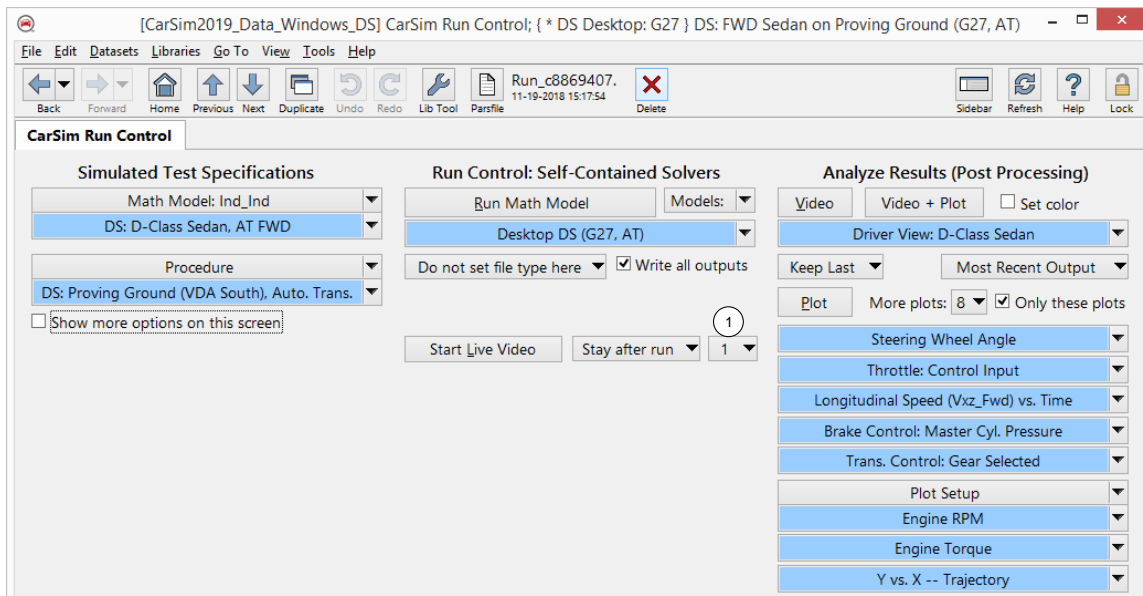

Figure 47. Run Control screen appearance with controls set up for Live Video data streaming.
1. The number of live server connections is set to 1 on the **Run Control** screen (Figure 47, ①).